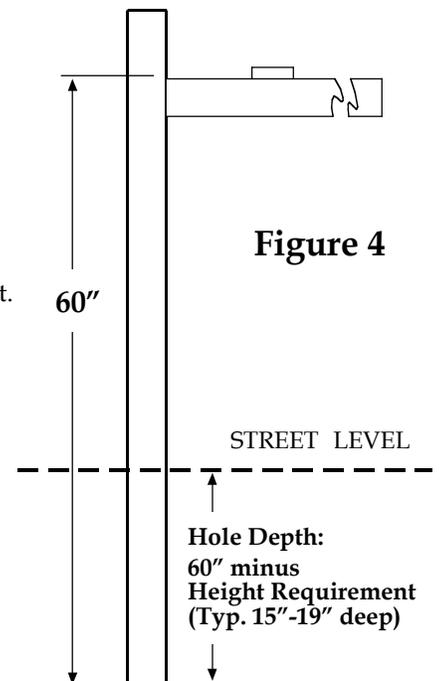

Figure 4
- Dig holes 58" on center (45.332" for Triple Mounts). Determine depth of holes using the Post Office height requirement (X), subtracting the height from the top of the cross bar to the bottom of the post. I.E..60" - X = Hole Depth. (See Figure 4)